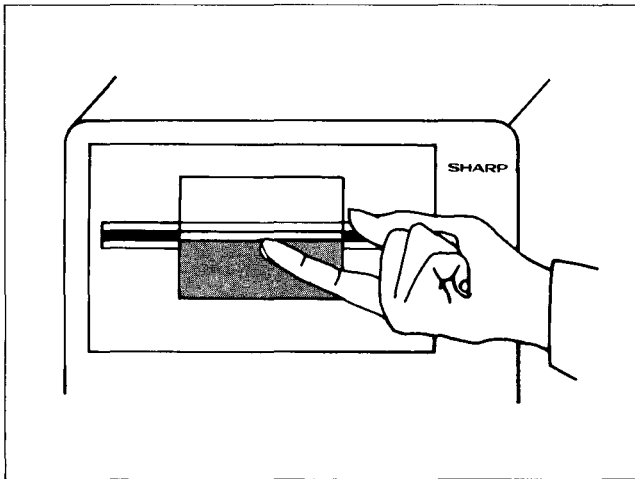

Fig. 5 Operation 1
2. Open the front door of the Floppy Disk with your finger (See Figure 5).